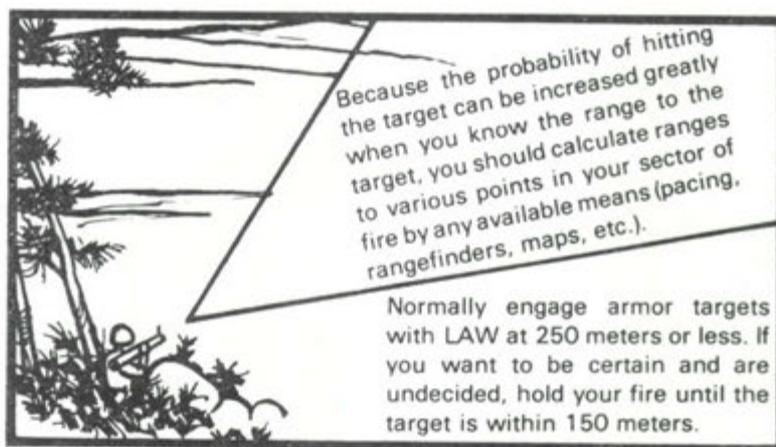

Figure 3.
c. **DESTROY THE ENEMY.** This is the critical step in the employment of your LAWs because the enemy is within approximately 250 meters of your position. Figures 3 and 4 demonstrate the items you should consider.
(1) Range (see figure 3).